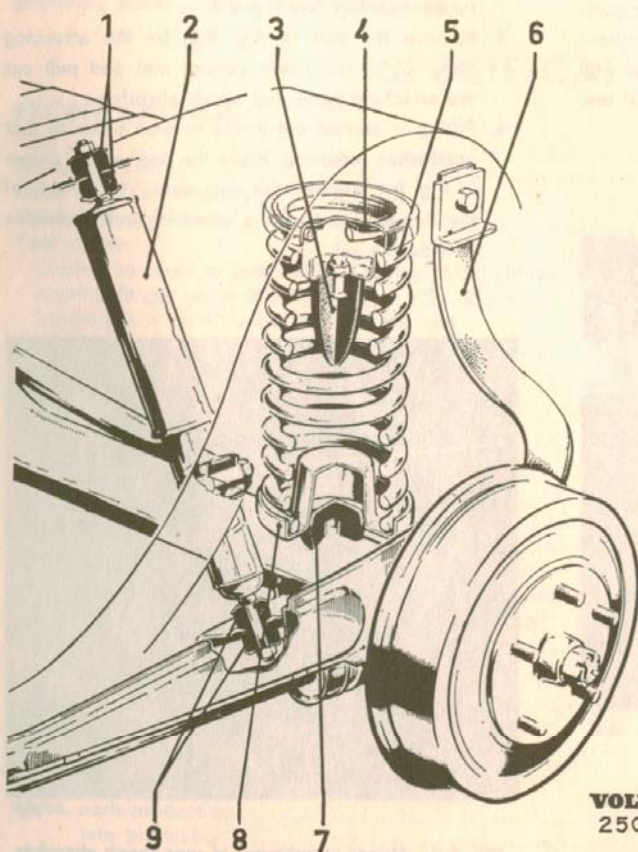

**Fig. 9-4. Front spring and shock absorber**
Check the spring before fitting it. Compress the spring fully and then check its length under the loading shown in the specifications. Replace sagging or damaged springs. Check the rubber spacer (5, Fig. 9-4).
Place the rubber spacer (5, Fig. 9-4) and washer (6) in position in the spring seating in the member and fit the spring in reverse order to that used when removing.
4. Fitting is carried out in the reverse order to that used when removing. Place the washers as shown in Fig. 9-4. Tighten the nuts until  $1/8"$  (3 mm) of the threaded end of the attaching bolt protrudes outside the nut.